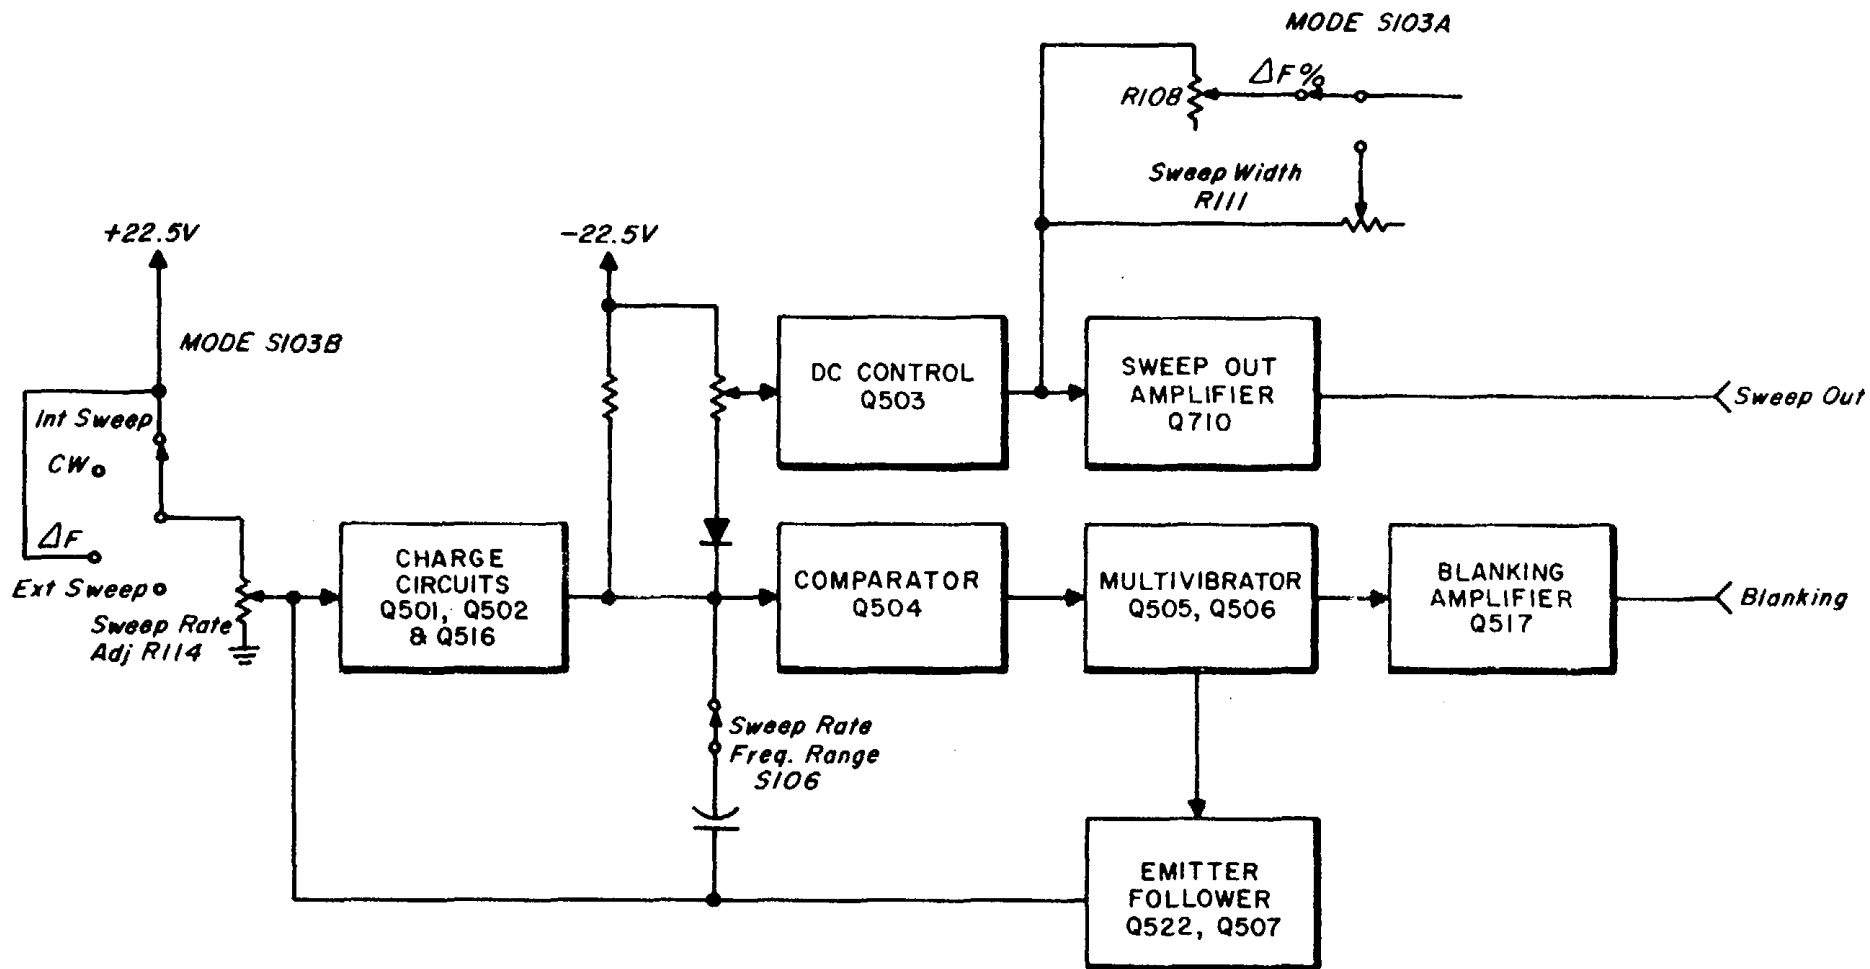

Figure 11. Sweep Generator, Block Diagram
e. Sweep Generator. The sweep generator (figure 11) is a modified Miller integrator that provides the modulating signals to sweep the BWO around the preset FREQUENCY - MC setting. These modulating signals may either be the ΔF or the SWEEP WIDTH outputs which are, except for amplitude, identical.